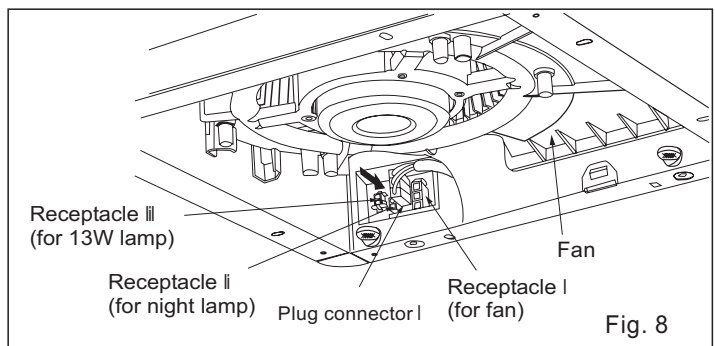

Fig. 8
9. Connect plug connector I to receptacle I .(Fig.8)
10. Connect plug connector I to receptacle I. (Fig.8)
(14) Connect plug connector I to receptacle I. (Fig.8 of page 6.)